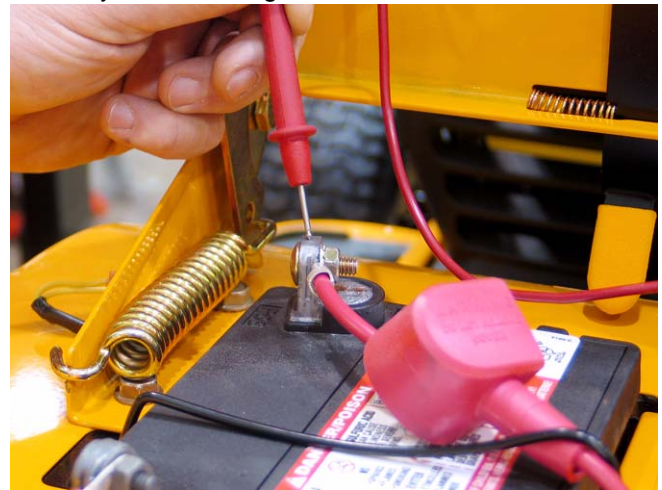

Figure 39.27
39.27. Applying this principle to the positive side of the system: See Figure 39.27.